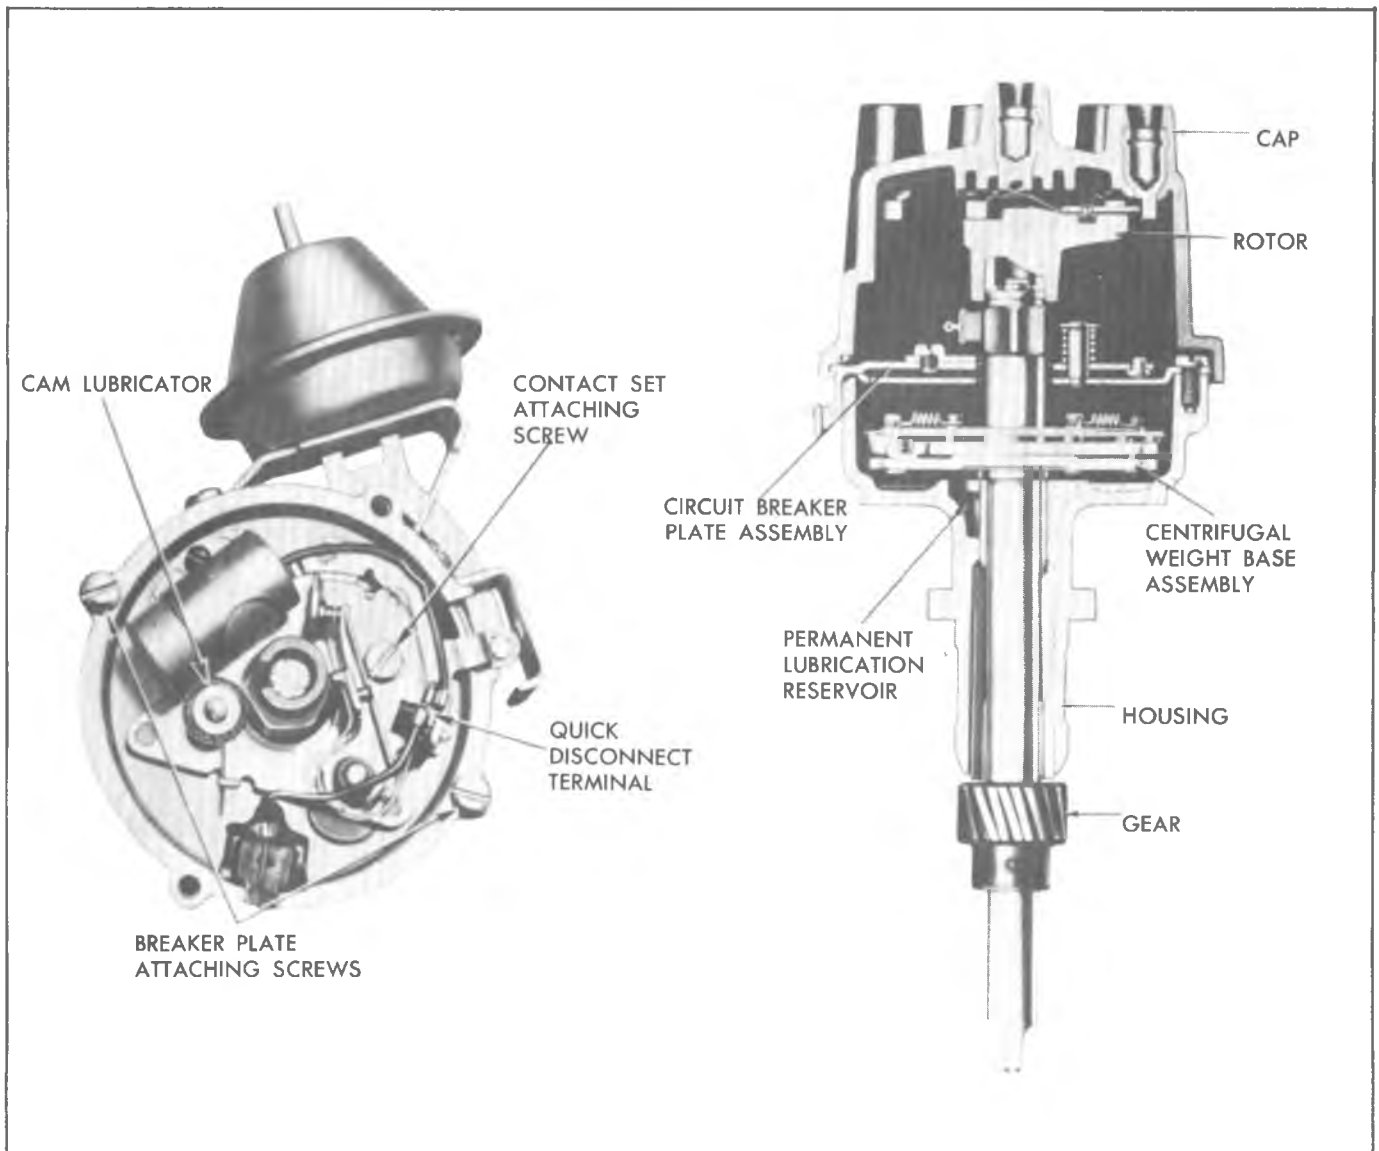
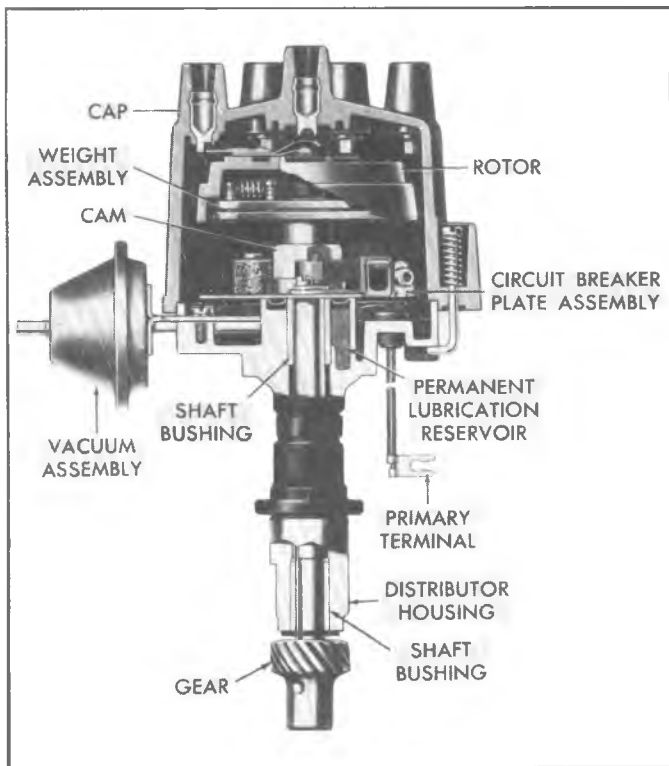

Fig 1i-6 Cylinder Distributor
Fig. 2i-8 Cylinder Distributor
Two types of distributors are used: an internal adjustment distributor on 6 cylinder engines (fig. 1i) and an external adjustment distributor on 8 cylinder engines (fig. 2i). Both function in much the same manner to - (1) cause a higher voltage surge from coil, (2) time these surges with regard to engine requirements through use of centrifugal and vacuum advance mechanisms, and (3) direct high voltage surges through distributor rotor, cap, and high tension wiring to the spark plugs.
The typical contact point type ignition distributor (Figs. 1i and 2i), consists of a housing, shaft, centrifugal advance assembly, vacuum advance assembly, breaker plate assembly, capacitor or condenser, and rotor.